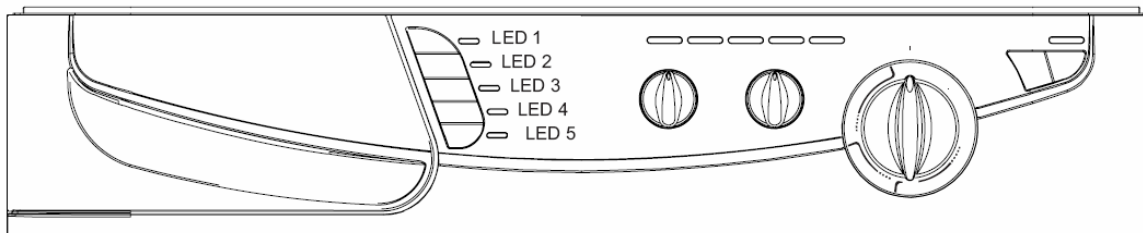

Fig. 13-2
- The NTC can be removed without removing the complete Heater Assembly but by first loosening the 10mm mounting nut. With the nut loosened pull the NTC straight out from the Heater Assembly. At room temperature the NTC has an Ohm of 20k Ohms (Fig. 13-1 & Fig. 13.2).